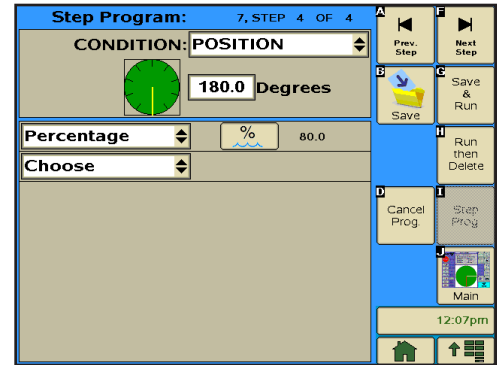

Figure 141-1
14. Program the position condition for this step. Refer to Figure 141-1.